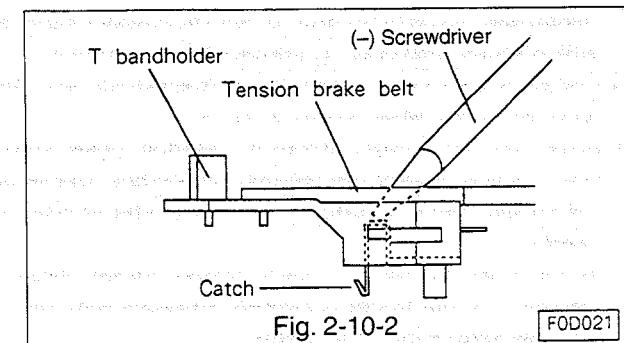

Fig. 2-10-2
- Unfasten the catch of the T band holder from the main plate with a small screw driver etc. as shown in Fig. 2-10-2. Raise and remove the T band holder with care not to score or dirty the tension brake belt.
If the hook is difficult to engage with the main plate, push the hook lightly with a small screw driver etc.(Refer to Fig. 2-10-2.)